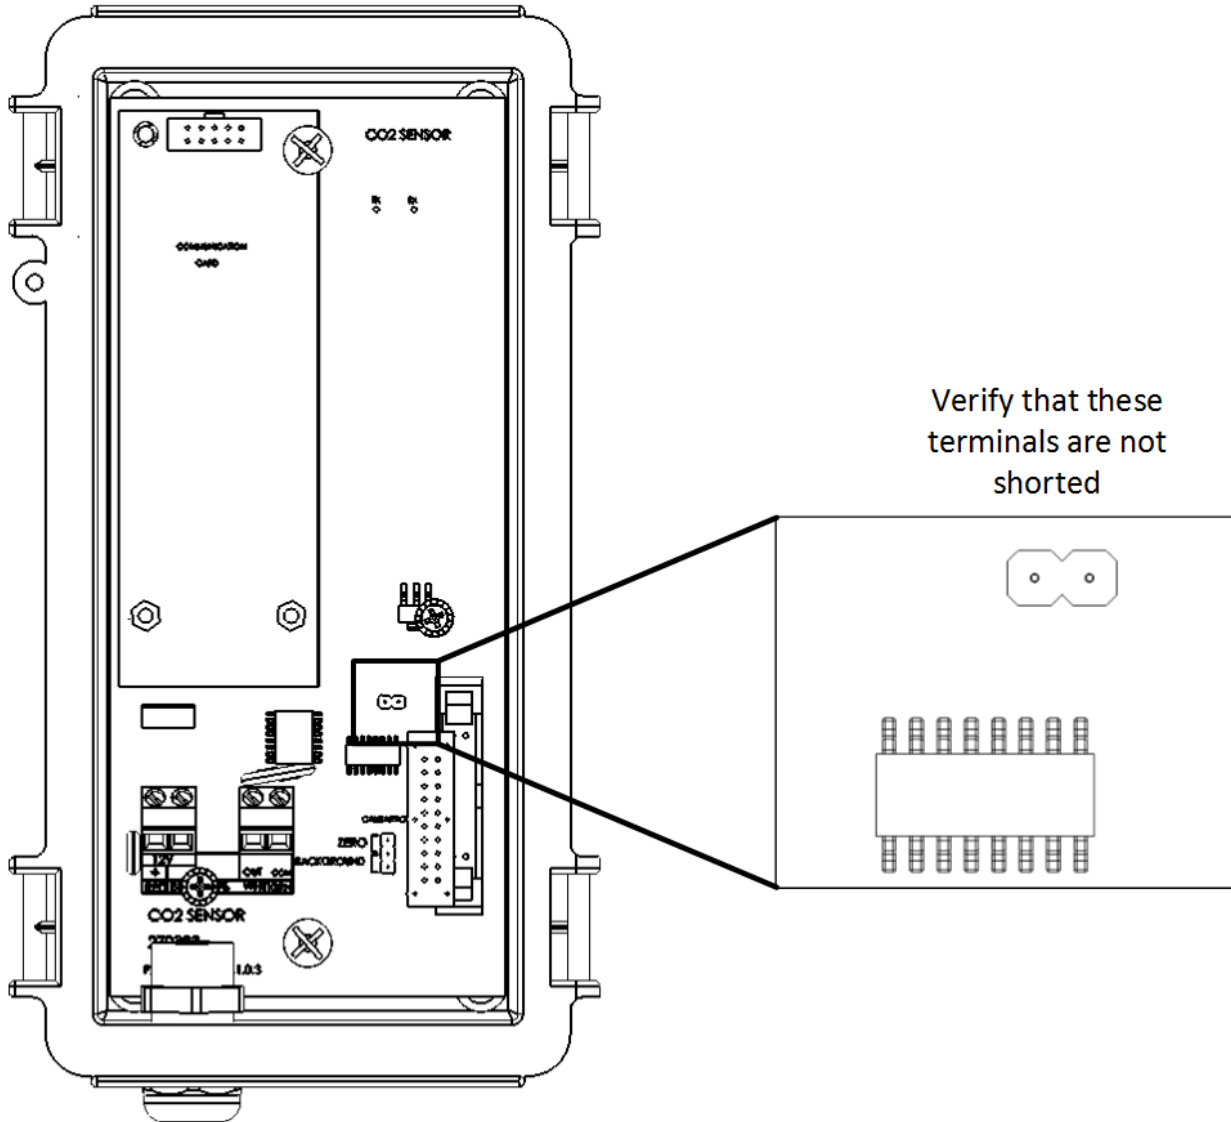

Figure 2: J2 Jumper
- Verify that J2 is not shorted (refer to Figure 2).